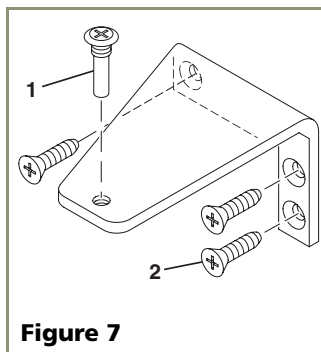

Figure 7
3. Remove top hinge (3 screws), reinstall hinge screw pin, and remount on opposite side BOTTOM (see **Figure 7**).